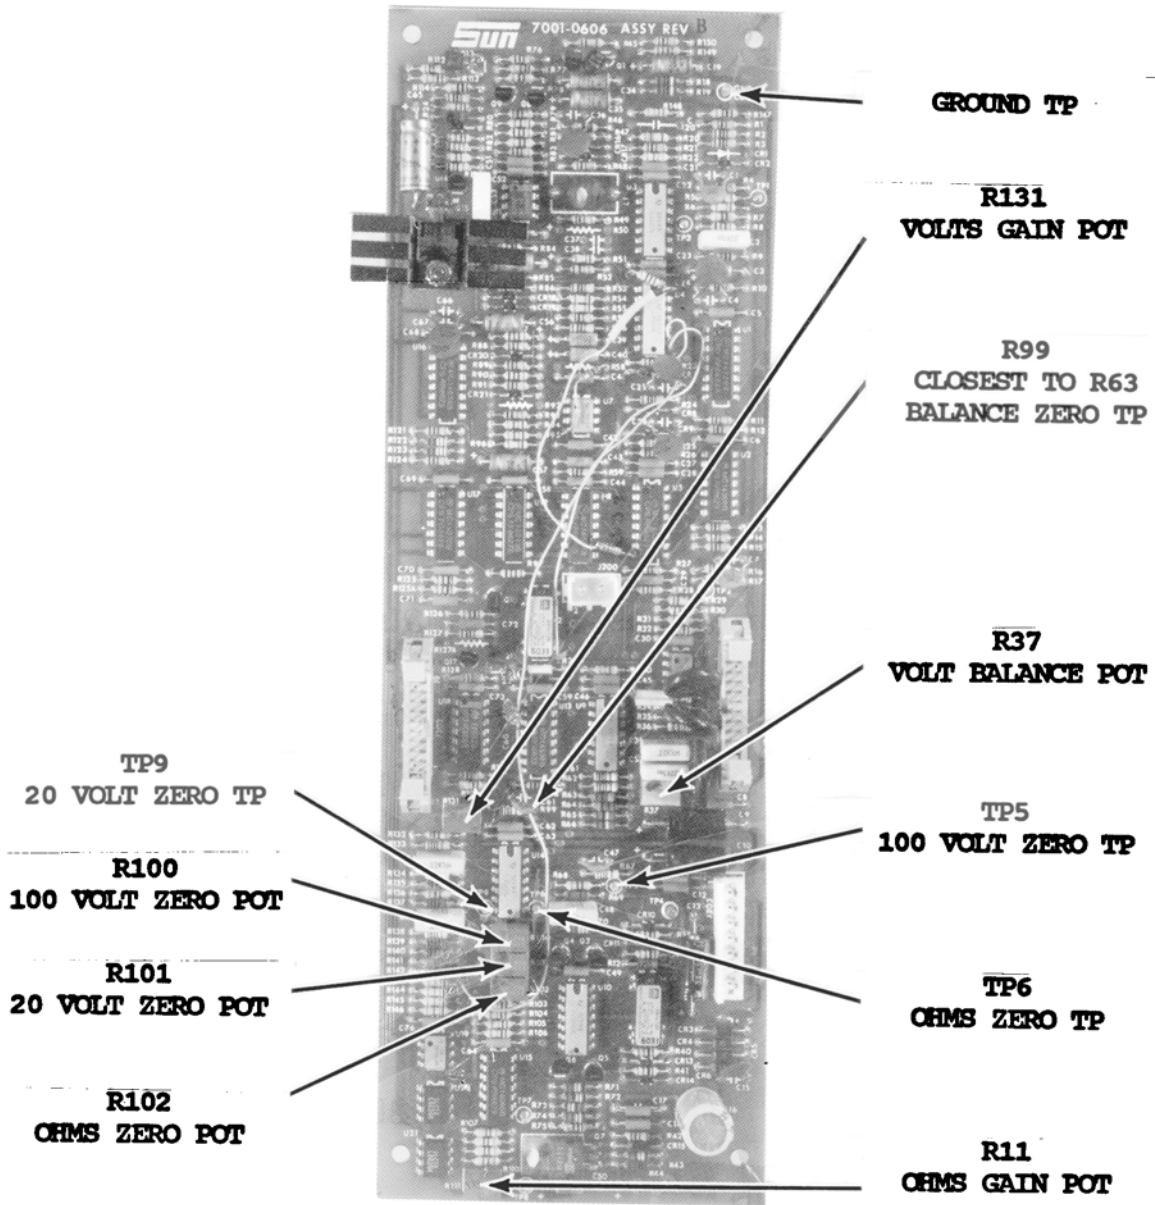

FIGURE 6-3
A. MAG/VOLT/OHM PRINTED CIRCUIT BOARD 7001-0606 (refer to Figure 6-3)
- C. *Refer to Figure 6-3 on Page 6-9 for Mag/VOLT/OHM Board #7001-0606 for locations and descriptions of Test Points and Pot adjustments as outlined in this procedure.*